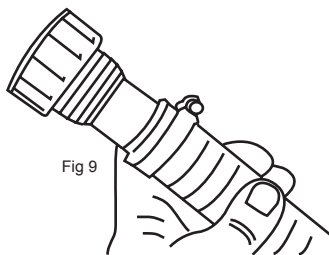

Fig 9
13. Place the stepped hose tail through the female threaded nut, place your hose clamp over the hose and then push your chosen hose over the hose tail. The hose must always be secured by a suitable clamp. Failure to do this could result in the hose being pushed off by the power of the pump. Fig 9